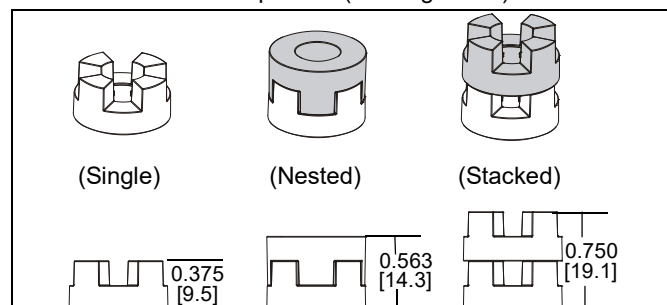

Figure 10
**NOTE:** The nesting spacers (NMA) may be used separately, or put two together in different configurations to create different size spacers. (See Figure 10)